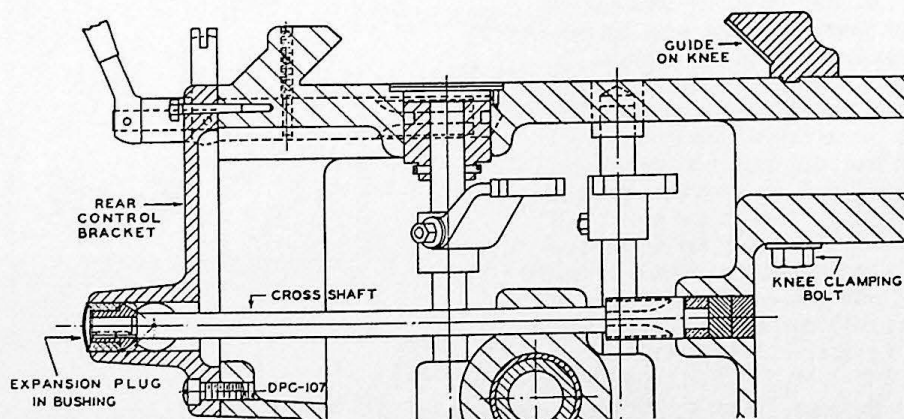

FIGURE 21
3. Remove knee clamping bolt on right-hand side of knee. Figure 21.